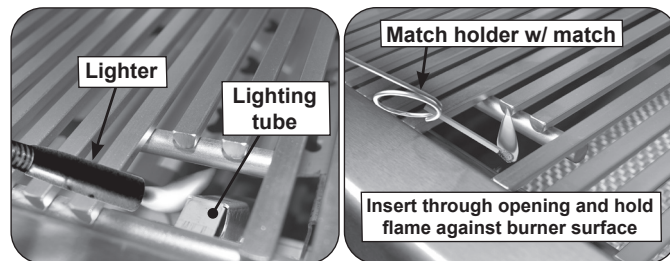

Fig. 37-2 Manual lighting via lighting tube
2. Insert either a burning long-barrel butane lighter, a burning long-stem match, or a burning match held by a wire extension holder through the cooking grids to the burner (Fig. 37-2). For backburners, hold the flame against the perforated material of the backburner.